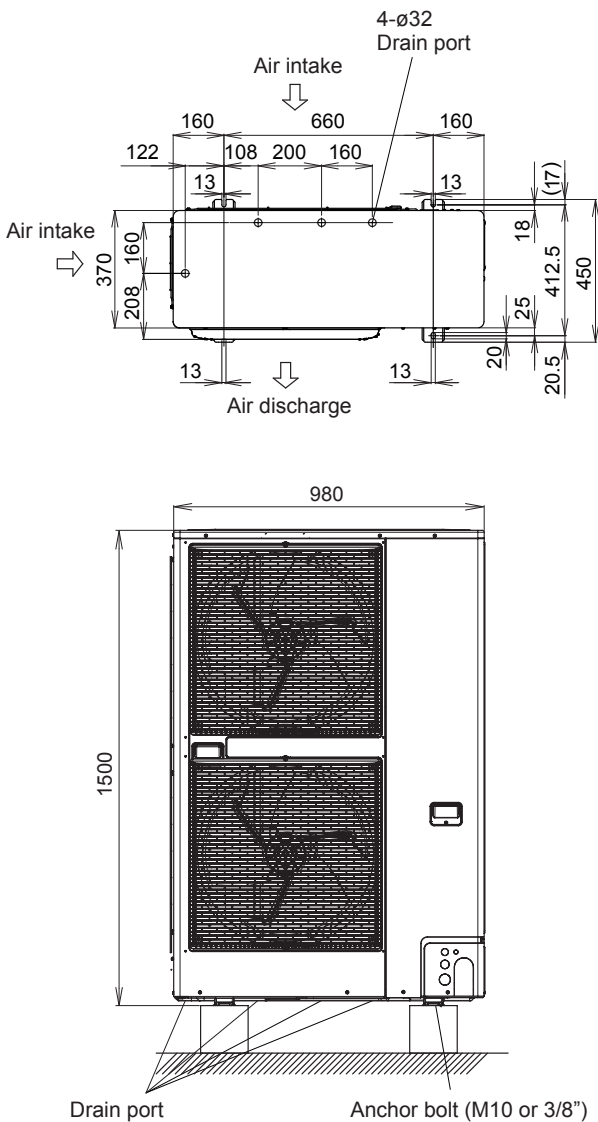

Fig. 3-1
- See Fig. 3-1 for the anchor bolt dimensions.
- For the drain port dimensions, see Fig. 3-1.